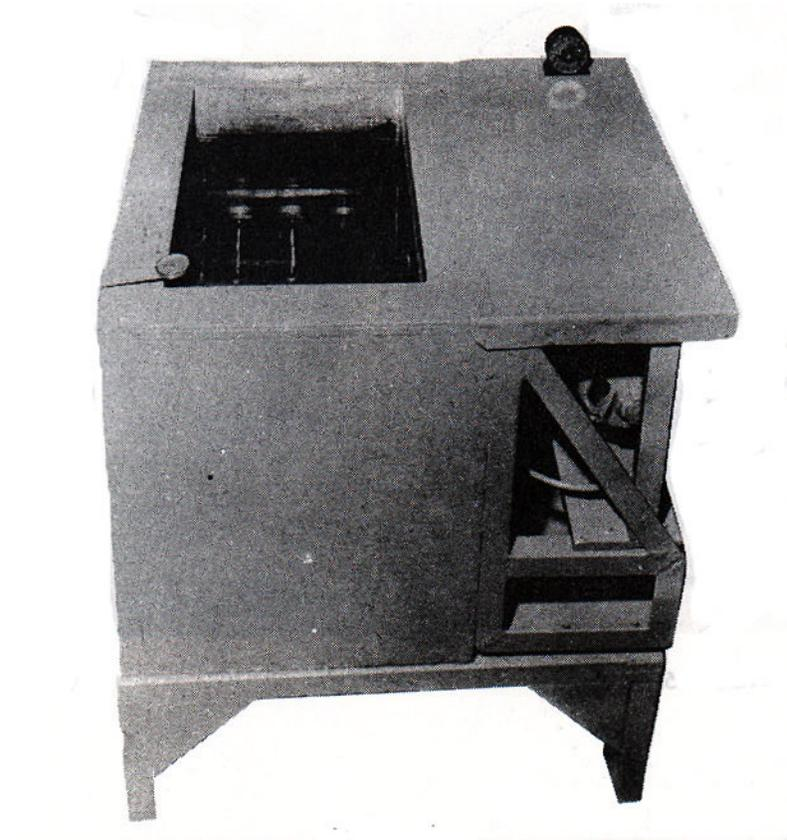

FIGURE 4
4. Machine designed to rotate test jars at  $33 \pm 2$  rpm (Figures 4 and 5). (TL drawing No. D-618).
1. Place the jar containing the sample in the testing apparatus (Figures 4 and 5) and rotate the jar for 15 min.